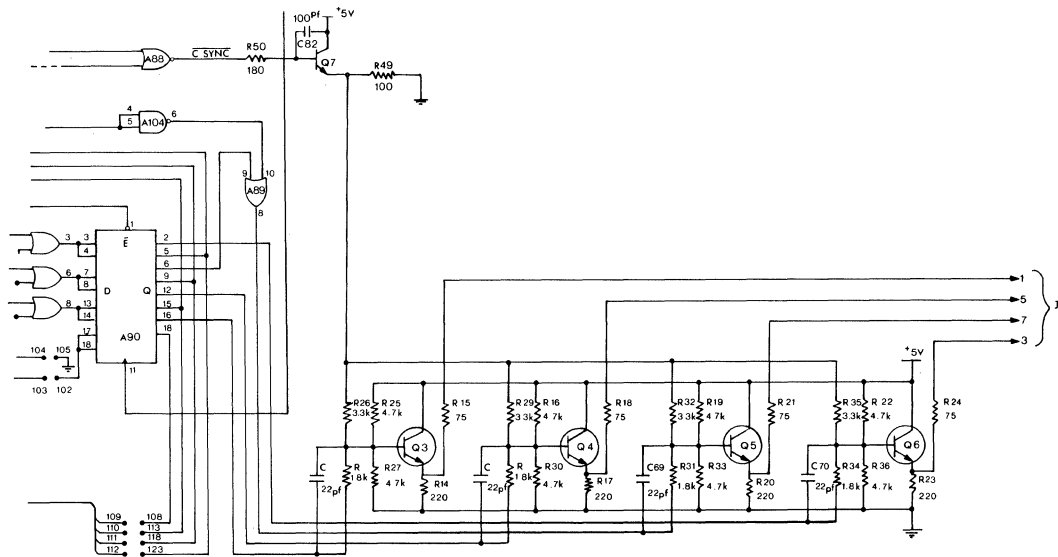

Figure 3. Modifying the RGB-GRAPH for four 1 bit DACs
B) Modifying the RGB-GRAPH for four 1 bit outputs (Fig. 3):